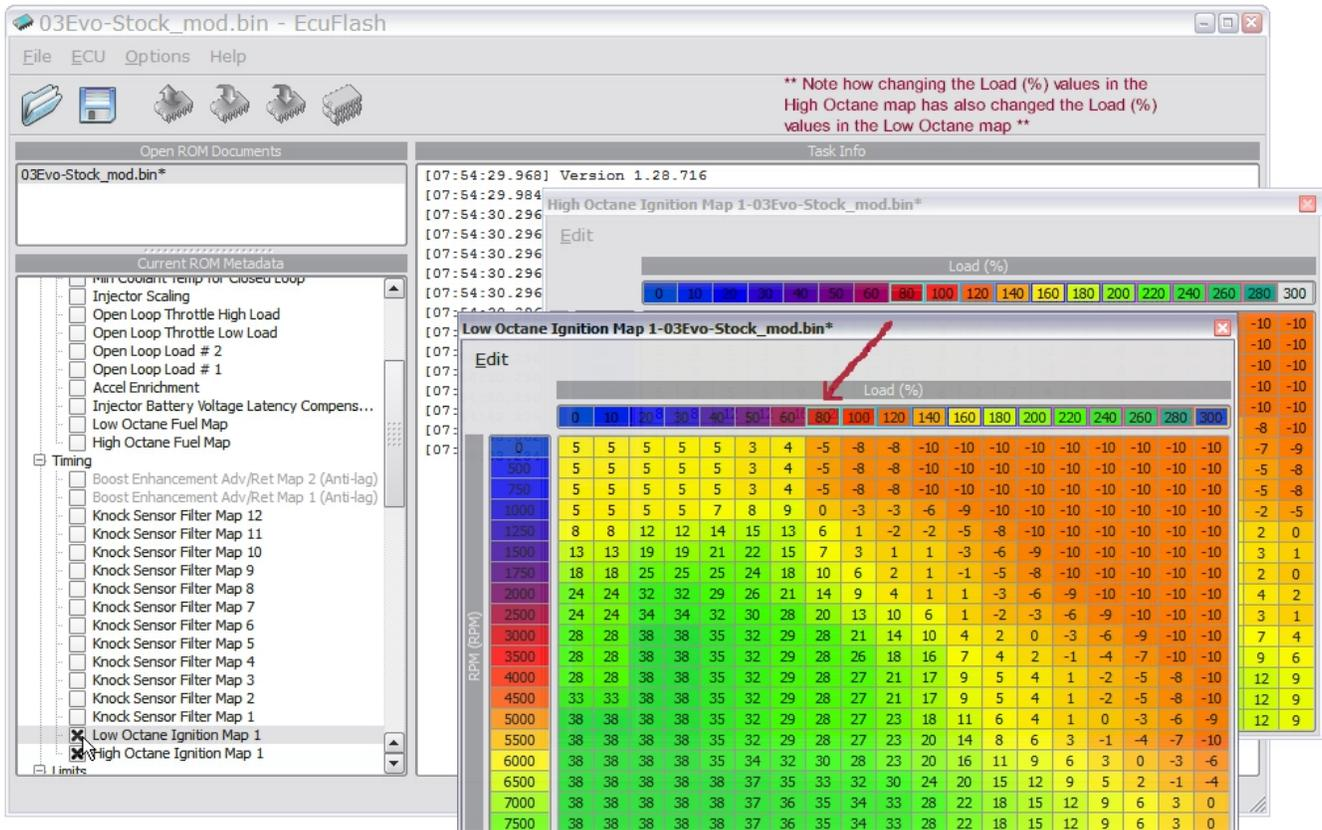

Figure 11, modified 2003 Evolution VIII ECU High and Low Octane Ignition Maps, Load (%) scale changed but map values still unchanged
d.) Pause and take note of the high and low octane map headers (figure 11)
Now that the column header has been edited for the High Octane map, let's take a look at what happened to the associated Low Octane map (figure 11).